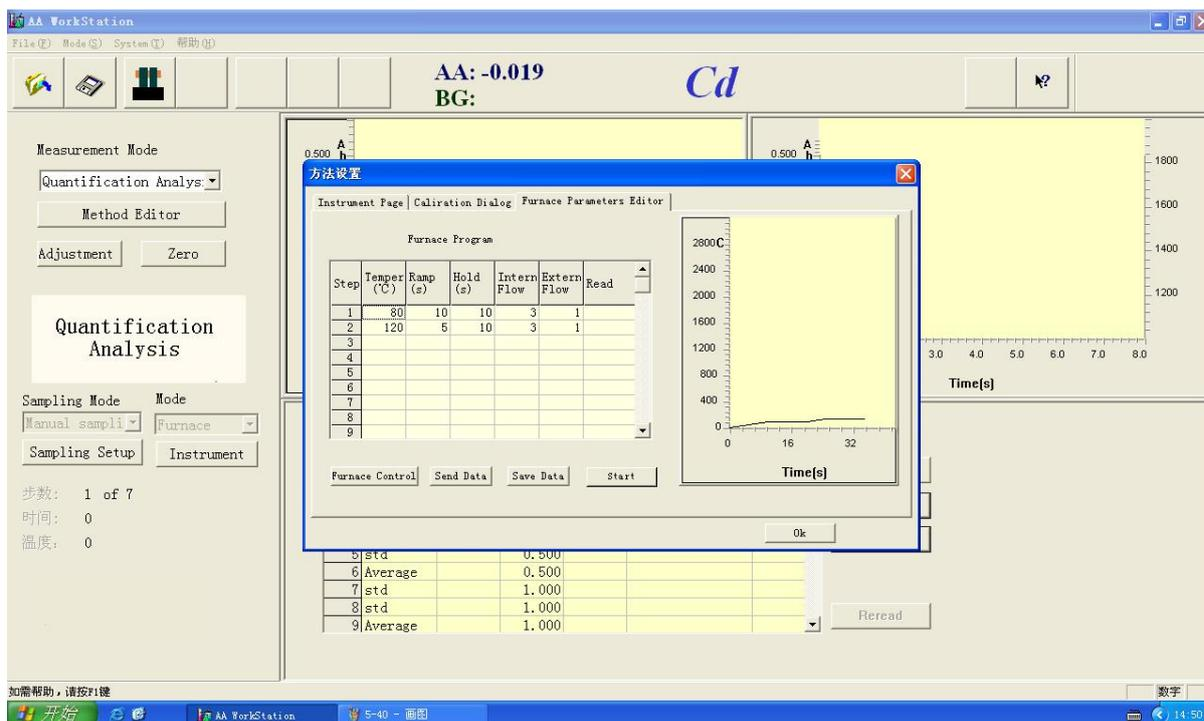

Figure 5-42
10. By analogy, input the corresponding program as shown in figure 5-42 (Note:at most 19 can be input)